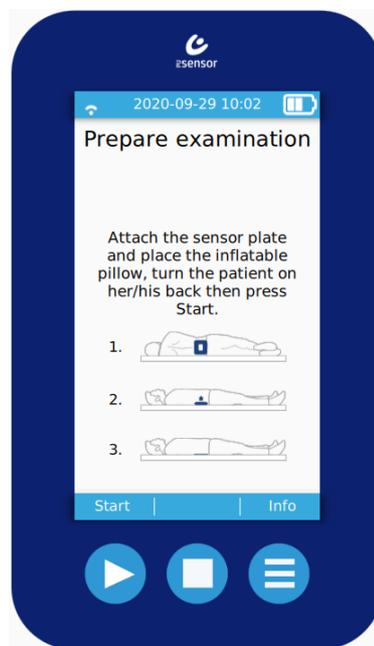

Figure 5. The device is ready for use. To start, press 'Start' on the screen or press the Start button.
4. Once the inflatable and sensor have been placed correctly and connected to the main unit, press the Start button or press 'Start' on the touchscreen as shown in Figure 5.